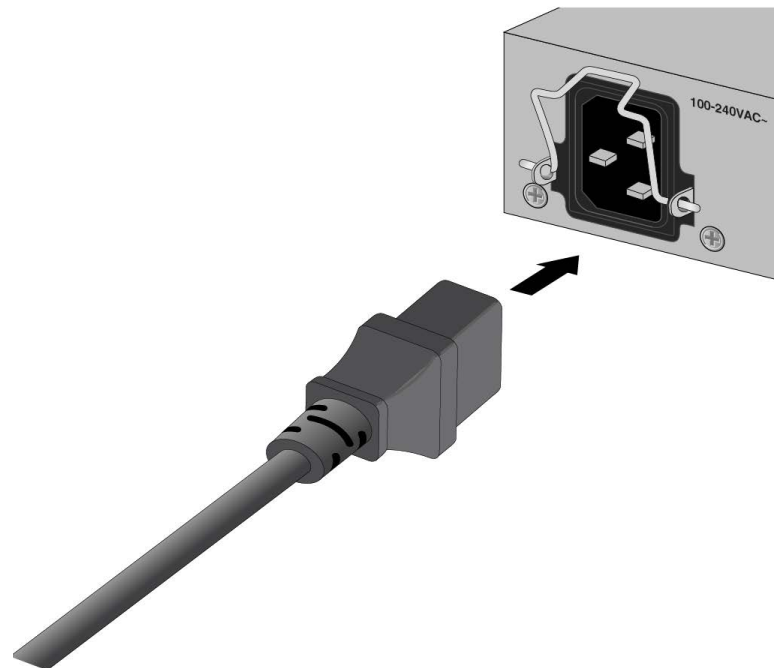

Figure 65. Connecting the AC Power Cord
2. Connect the AC power cord to the AC power connector on the front panel of the PWR300 power supply. Refer to Figure 65.